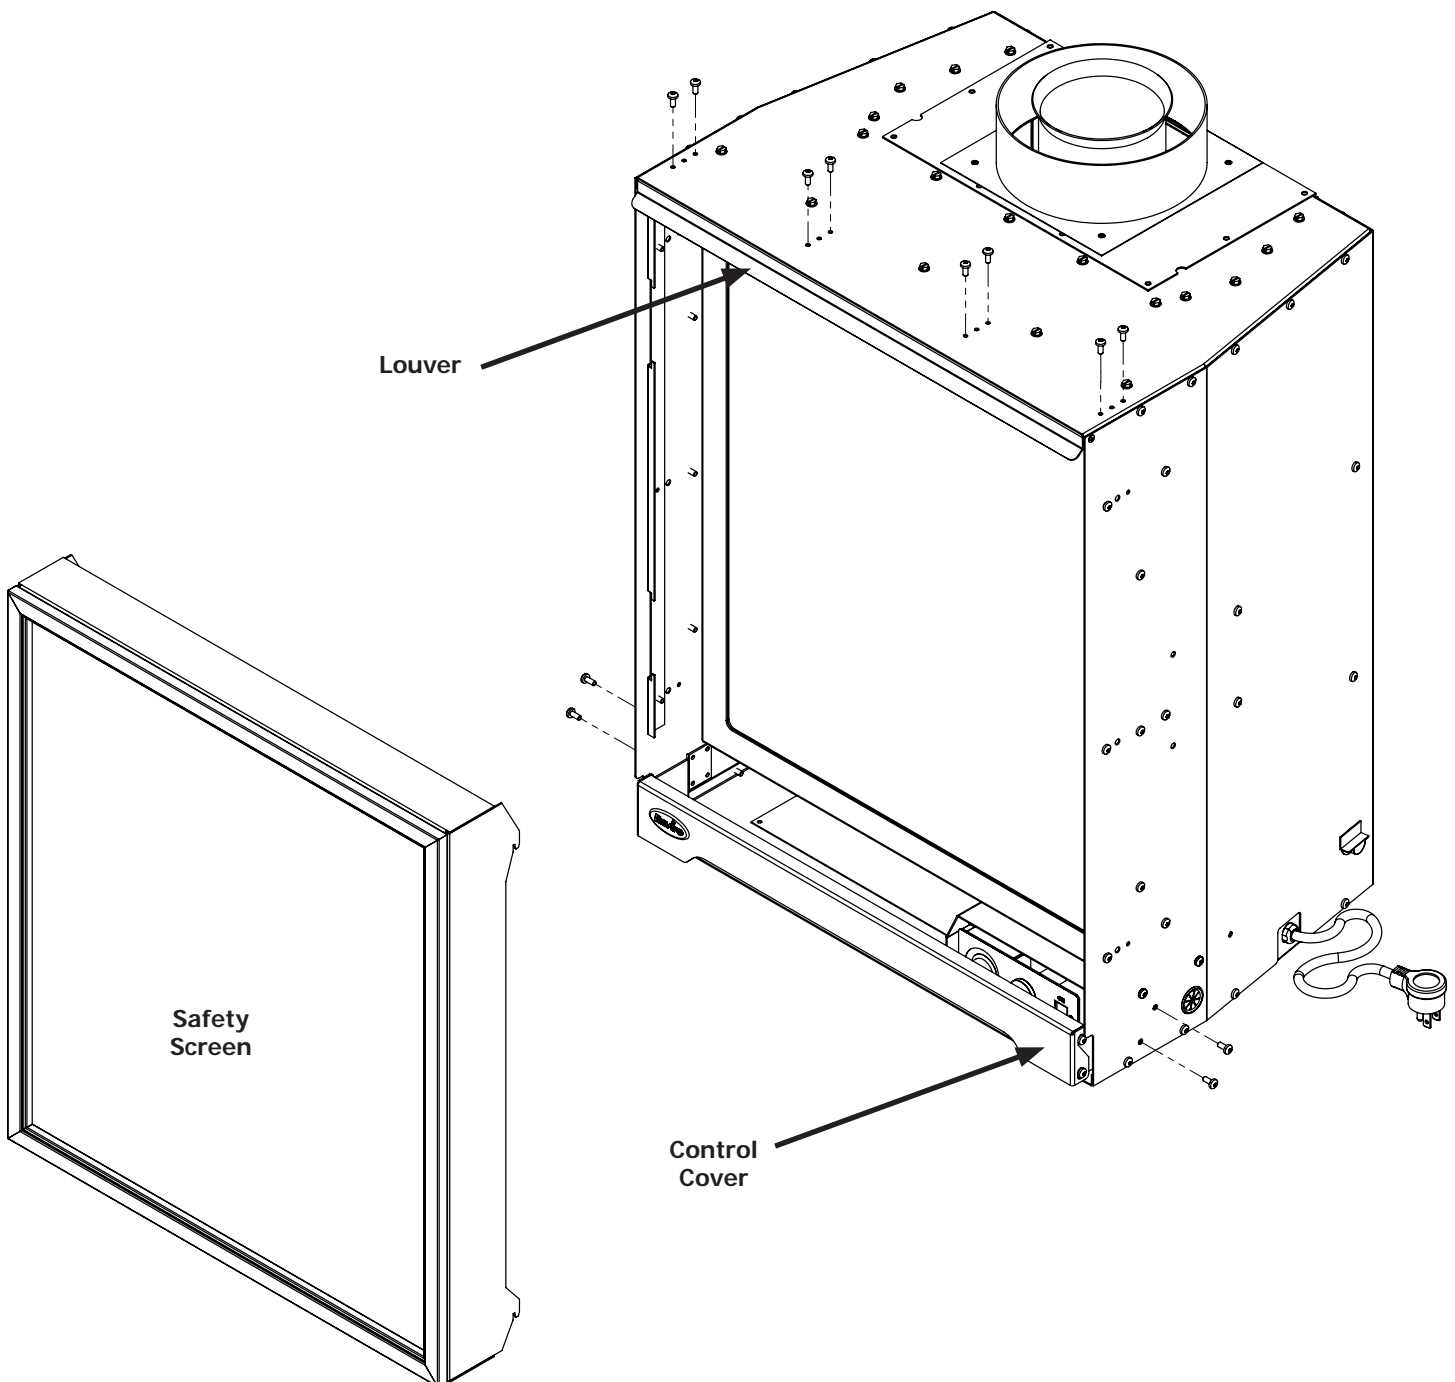

Figure 34: Surround Panel Installation
2. Use a T20 screwdriver to remove the two (2) screws on each side of the Control Cover as shown in Figure 34.
3. Use the same screw driver to remove the eight (8) T20 screws that hold the Louver to the top of the cabinet.